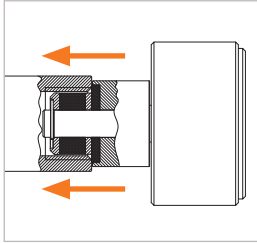

Figure 4
- ▶ Insert the connector straight into the test piece until the front seal (Pos. 7) touches the test piece (*Figure 4*). Doing so will prevent any damage to the front seal caused by any sharp edges on the test piece and ensure a correct connection.